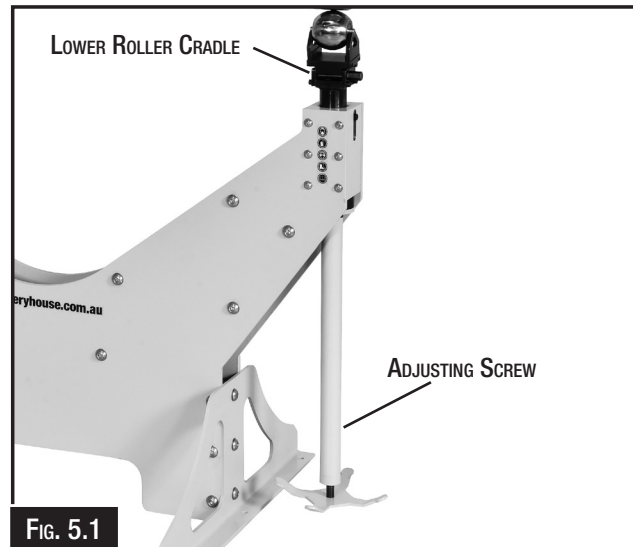

FIG. 5.1
- Clean and lubricate lower wheel saddle stem and adjusting screw. (Fig. 5.1)